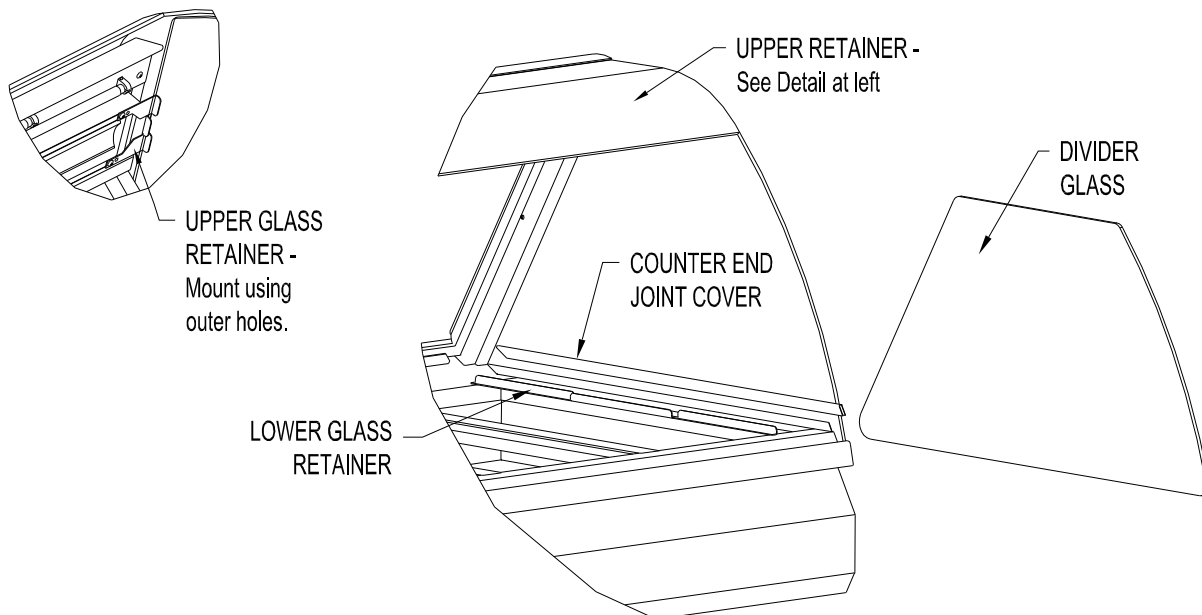

Figure 6. Divider Glass Installation
1. After leveling the cases and bolting the bases together, bolt the canopies together as shown in Fig. 6 with a 1/4"-20 x 3/4" Hex Head Screw and Keps Nut.
1. Mount the Upper Glass Retainer by first removing the outer (2) retaining screws from the canopy heater reflector on the end of the deli case the Divider Glass is being installed. Insert the screws through the outer set of holes in the Upper Glass Retainer (see Figure 6) and attach the Upper Glass Retainer to the canopy.
2. Place the Lower Glass Retainer in position against the inside of the counter end wall on the end of the deli case the Divider Glass is being installed. The side of the Lower Glass Retainer with (2) vertical walls is placed against the counter end wall.